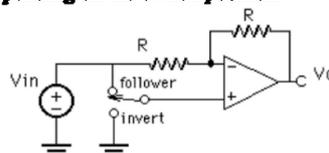

Figure 6: Amplifier that can be used as a follower (i.e. an amplifier with gain=1) or as an inverting amplifier with gain -1.
- An interesting circuit is shown in Figure 6 that can be used as an inverting or non-inverting amplifier by changing a switch position. Prove that the voltage gain is either +1 or -1, depending on the switch position.